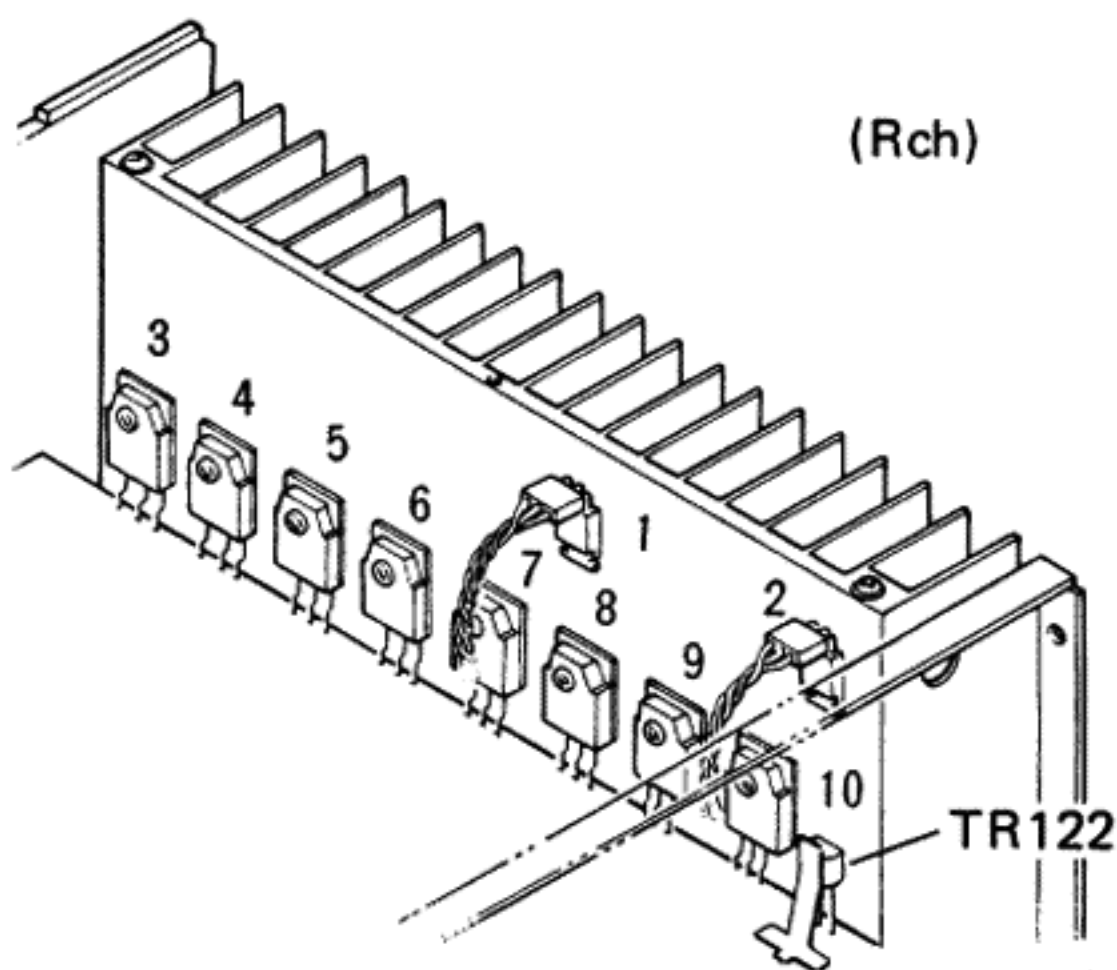

Fig. 12
- Detach the connectors ① and ② in Fig. 12 which are connected to the drive transistors.
- Remove screws ③ through ⑩ in Fig. 12 which fix the power transistors and then exchange the transistors.
- \* After the heat sink has been mounted, check that TR122 can sufficiently touch the heat sink. Apply silicon grease to the contact surface. When the heat coupling between power transistor and the heat sink is imperfect, the power transistors may be damaged by thermal run away. (Fig. 12)